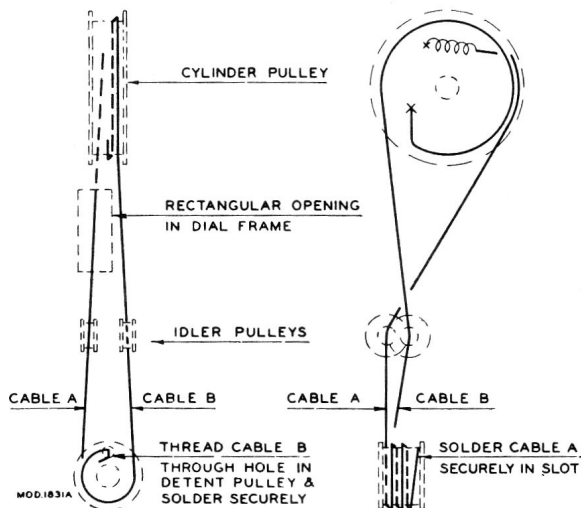

Figure 3.—Band Indicator Stringing Diagram, No. 1.
4.—Band Indicator Stringing No. 1 (See Fig. 3):—